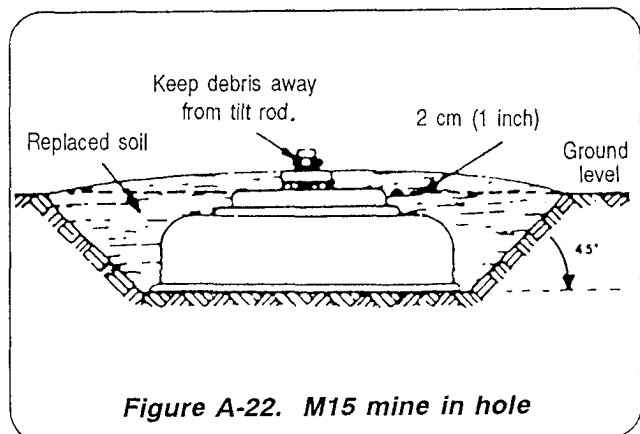

Figure A-22. M15 mine in hole
b. Cover the mine with 1 inch of soil (Figure A-22).